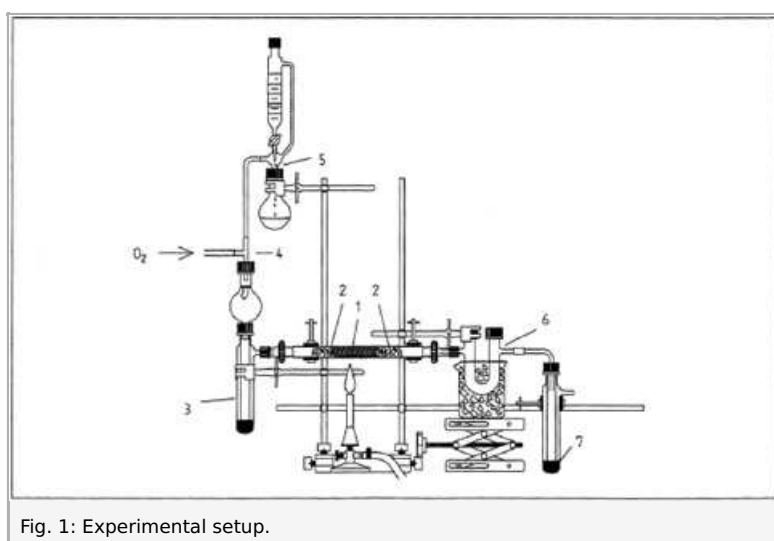

Fig. 1: Experimental setup.
Fasten this prepared combustion tube horizontally to two support rods as shown in Fig. 1. Connect a connecting tube and a wash tube with a fritted disc (3) to one end of the combustion tube. This wash tube is filled with approximately 30 ml of concentrated sulphuric acid for drying the gases that will be fed in. Connect an SO_2 generator (5) to this set-up via a T shaped capillary tube (4). The SO_2 is generated by dripping concentrated sulphuric acid into a 40% sodium pyrosulphite solution (of 35 g of $\text{Na}_2\text{S}_2\text{O}_5$ and 52.5 g of water). Connect an oxygen steel cylinder to the free end of the T-shaped capillary tube (4).